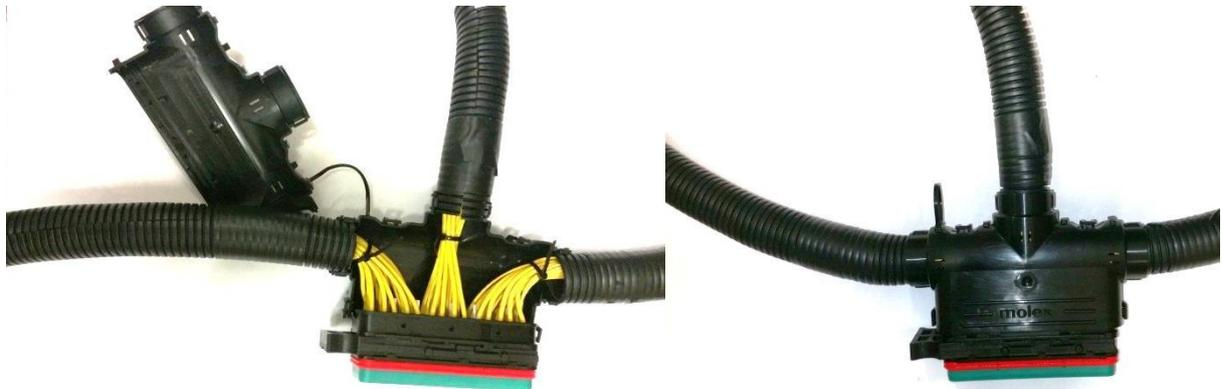

Figure 4.35: A correctly assembled conduit to a SRC Female Connector using the appropriate Conduit Interface
- Select the appropriate conduit interface to match the conduit(s) used with the cable bundles and the interface of the SRC connector (male or female) (see Figure 4.34 (middle) & Figure 4.35 (left)). See conduit interface sales drawing for exit configurations and appropriate part numbers.
- Place one half of the conduit interface onto the connector as shown in Figure 4.34 (middle) & Figure 4.35 (left), moving each cable bundle to the appropriate exit in the conduit interface.
- Apply the second half of the conduit interface to the connector, enclosing all conduits. Ensure all snap-fit latches are fully mated both on the conduit interface body and on the exit ports (see Figure 4.34 (right) & Figure 4.35 (right))